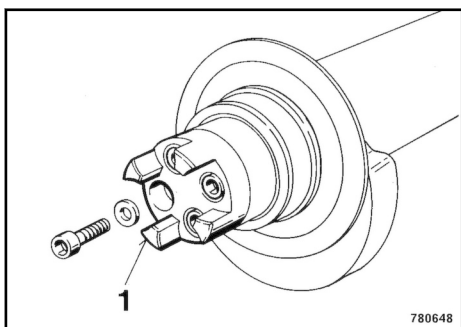

Fig. 238
6. Install coupling hub 1 ↪ Fig. 238.